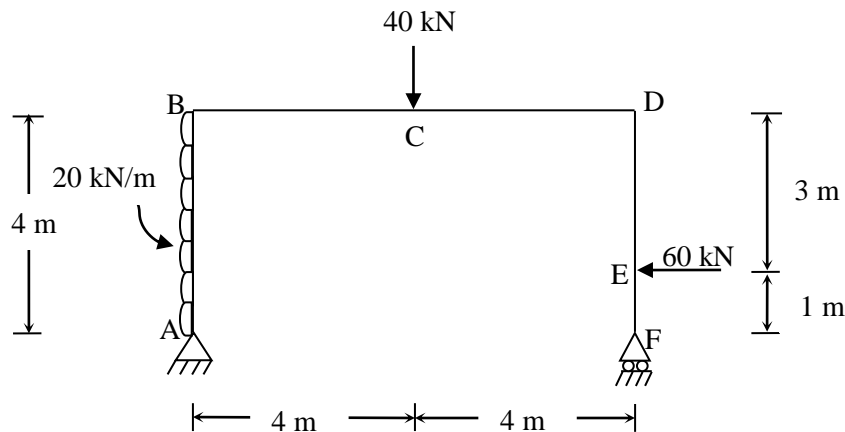

Fig. 2
- (b) Find out all internal forces and draw Shear Force and Bending Moment Diagrams for the plane frame shown in Fig. 2. **07**